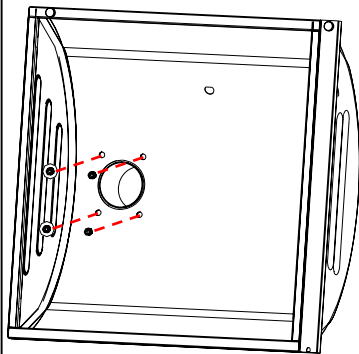
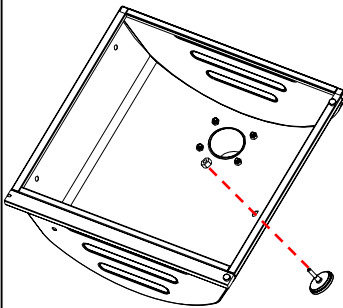
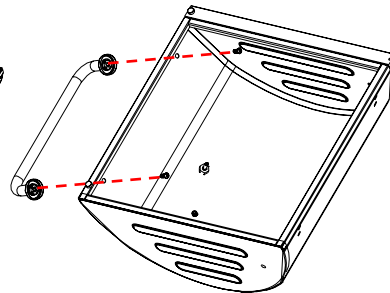

Fig. 17A
Fig. 17D
Fig. 17E
Refer to Fig. 17A and 17B Insert the Smoke Stack Assembly from INSIDE the Lid and fasten it to the Lid with (4) M6x15 bolts and KEPS nuts. NOTE: the bolts are inserted from the OUTSIDE of the Lid. Refer to Fig. 15C . Place the Smoke Stack Lid onto the threaded stud , add the small spring and then fasten with the Cap nut tight enough that the Lid can be rotated to open and close the Smoke Stack. Refer to Fig 17D and unscrew the nut from the stem of the Heat Indicator and follow the same procedure as before to install it to the Charcoal Grill Lid. Refer to Fig. 17E and attach the Lid Handle to the Lid with (2) M6x15 bolts.